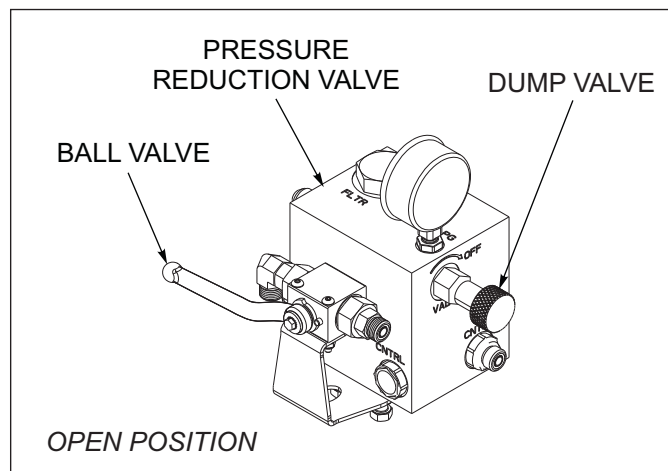

Figure 4-5: Pressure Reduction Valve Manifold
The Ball Valve between the Pressure Reduction Valve Manifold and the machine system needs to be turned "OFF" during field operation (handle upright). The Ball Valve should only be opened to 1.) check the system operating pressure present, and 2.) adjust the system pressure if it is too high or too low (below 2,000 psi). See Figure 4-5.
1. Connect the pressure and return hydraulic lines connected to the Pressure Reduction Valve Manifold, to the tractor. See Figure 4-5.